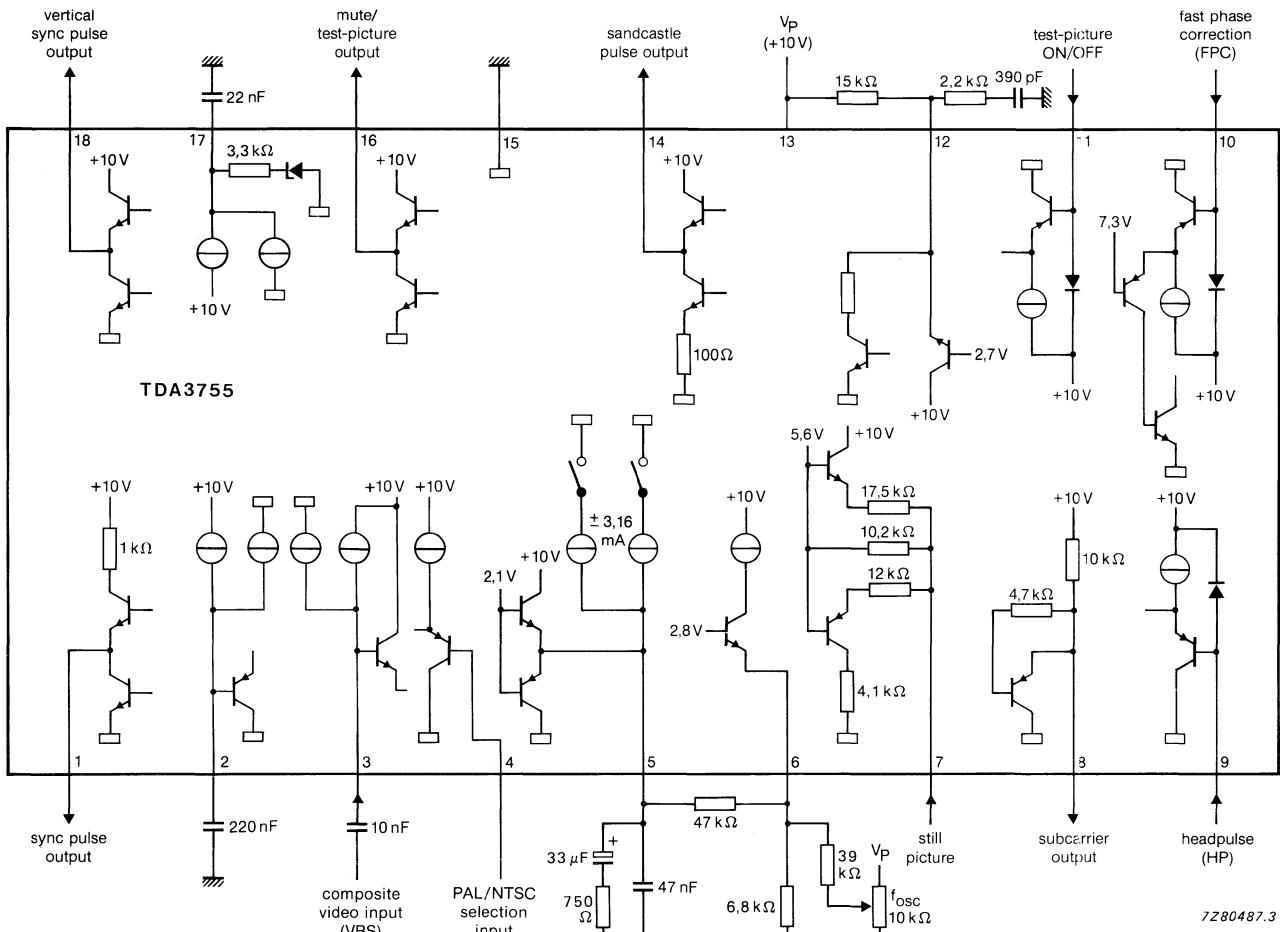

Fig. 4 Application circuit diagram.
**CHARACTERISTICS** $V_P = 10 \text{ V}$ ;  $T_{\text{amb}} = 25^\circ\text{C}$ ; measured in Fig. 4; unless otherwise specified
10. The timing of the upper part of the sandcastle pulse is determined by the components connected to pin 12 (Fig. 4) and is independent of supply voltage variations.